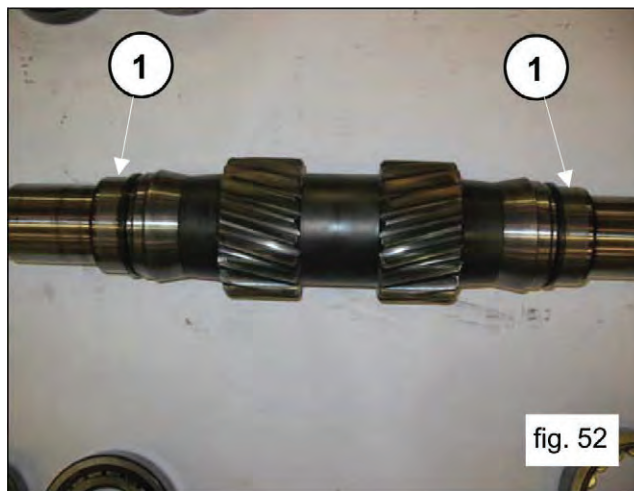

fig. 52
Onto the PTO shaft, slip on the 2 internal rings of the bearings (one per side) (pos. 1, fig. 52).